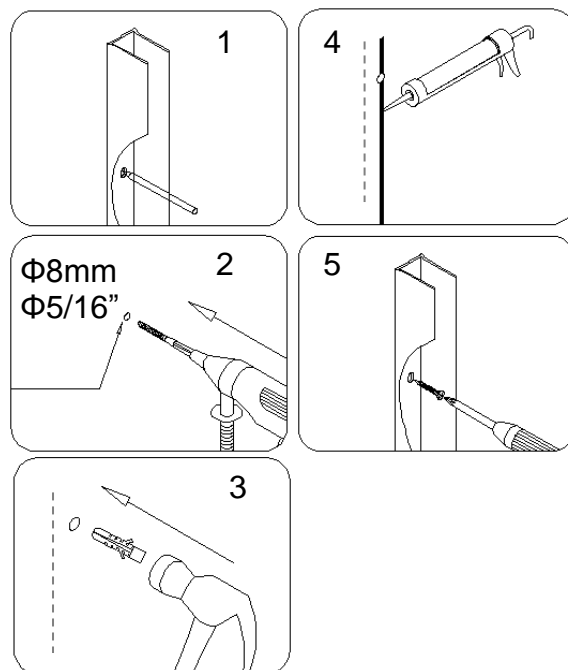

Fig 3
3. Mark the drill holes on the wall through the predrilled holes in the **Wall profile (01)**. Now drill holes in the wall using a **Φ5/16 drill bit** and insert the **Wall anchors (03)**. Apply silicone along the back of the **Wall profile** and into the drill holes. Fasten the **Wall profile** to the wall with the **Big head Screw ST4.2x40 (04)**. See Fig 3.